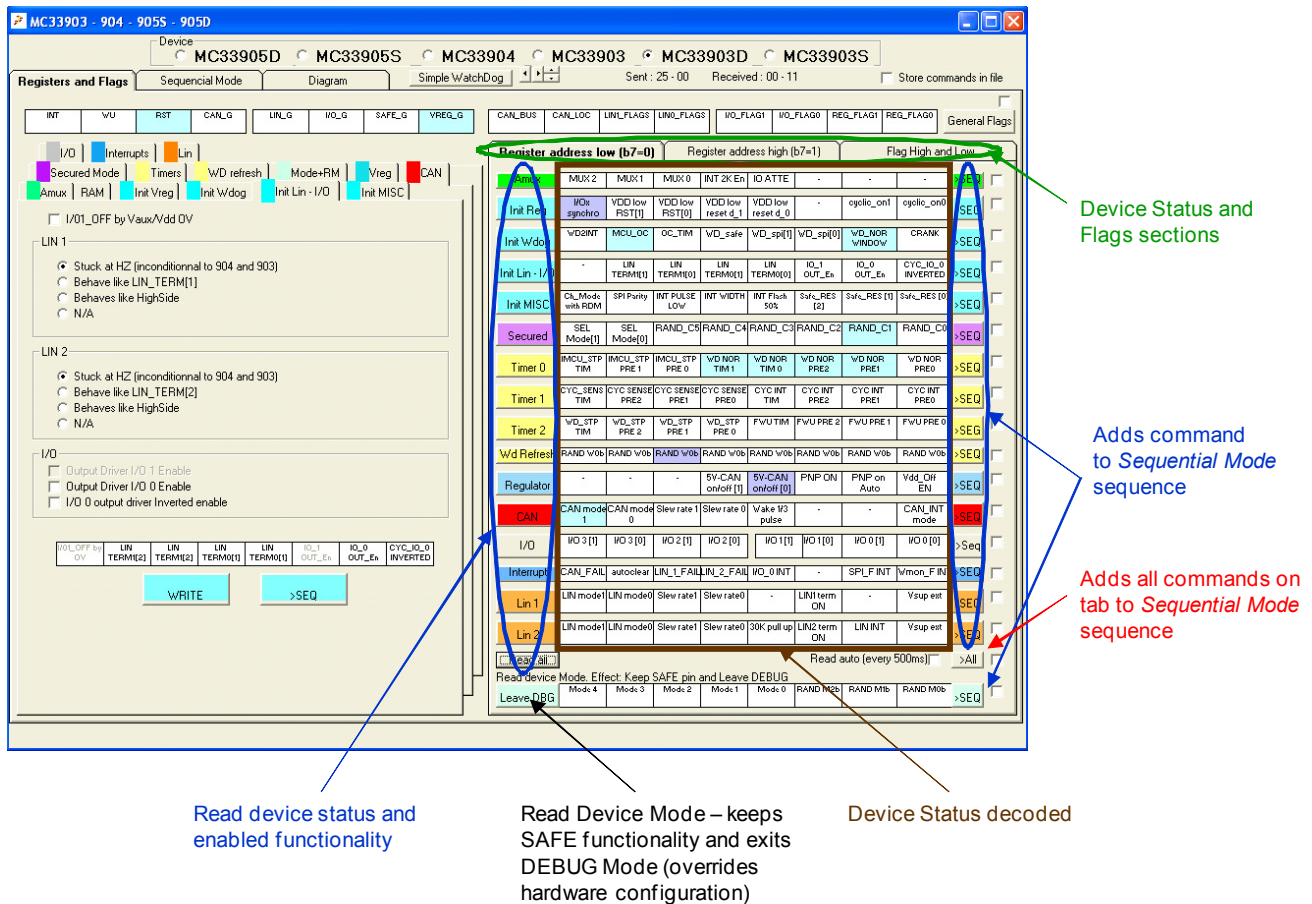

Figure 7. SPIGen Graphical User Interface (Commands and Device Configuration)
1. In the **Registers and Flags** tab, click **Register address low (b7=0)** sub tab as shown in Figure 7.